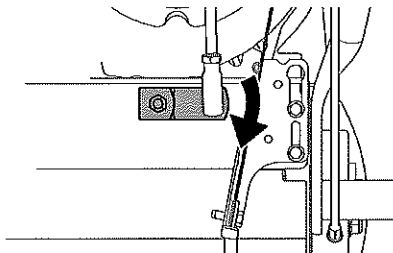

Figure 2-26
9. Make sure the shift lever on the back of the transmission is rotated downward to the full extent of its rotation. See Figure 2-26.